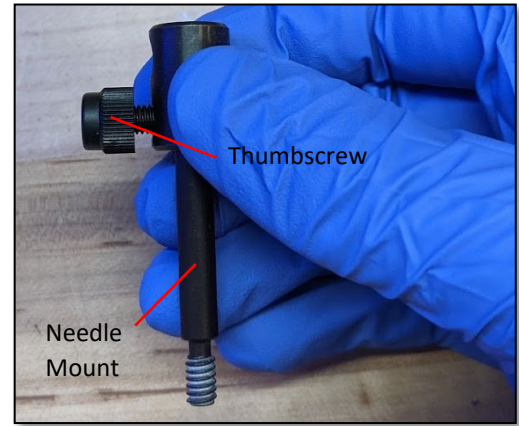

Figure 2
3. Remove the new needle assembly (**Figure 2**) from the needle replacement kit. The needle cover is tightly secured to the needle mount for shipping. As shown in **Figure 2**, hold the needle mount and cover to loosen the thumbscrew, then lightly re-tighten it.